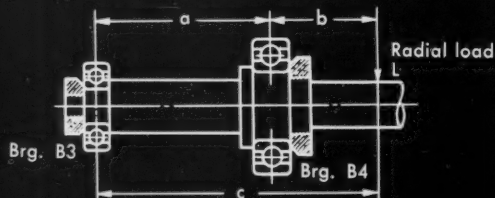

Fig. 3b
- (2) The load may be overhung and applied outside the bearing centres as in Fig. 3b.
For Fig. 3b: